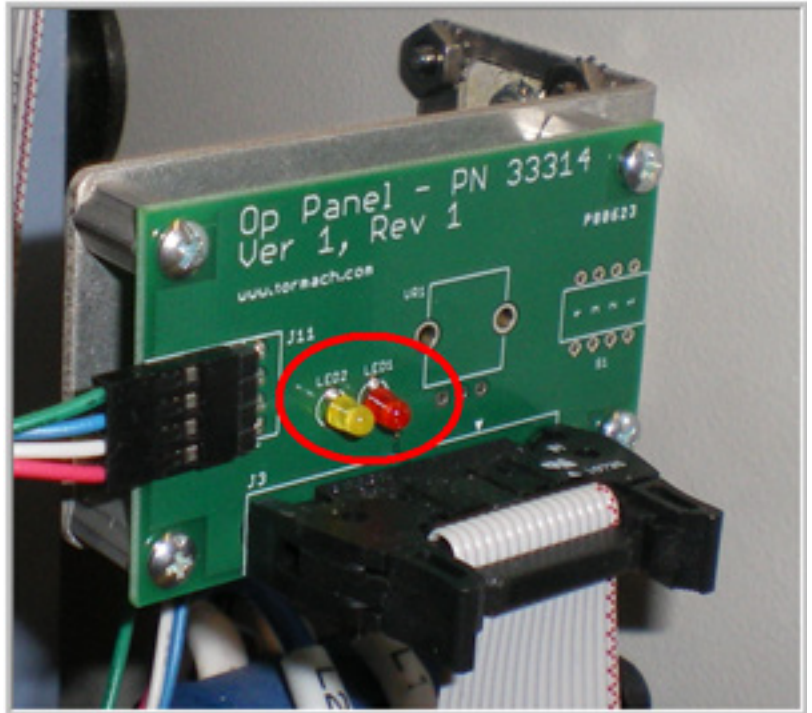

Figure 14
NOTE: LEDs: The machine and controller LED's are not critical to the day-to-day usage of your PCNC 1100 mill, but are very handy when trying to troubleshoot problems. For this reason, we have replaced panel-mounted (red) LEDs with two smaller board-mounted LEDs (see Figure 14).
5. Click the *Reset* button on your control screen, and verify that the yellow controller LED is lit on the new circuit board (see **Figure 14**).